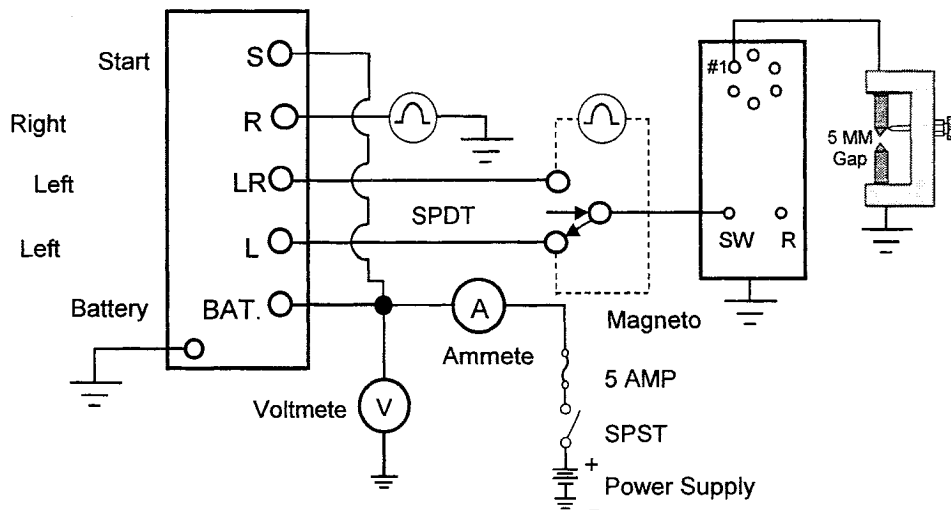
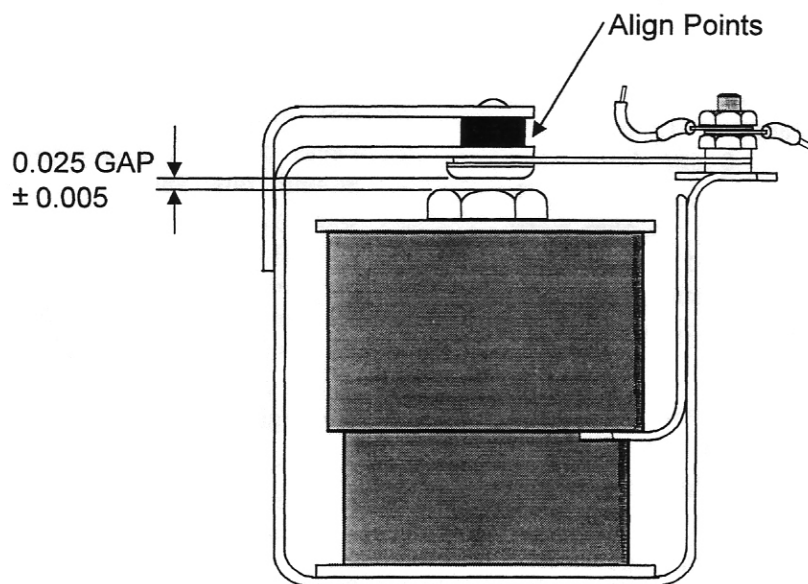

Figure 4-3
Figure 5-1
Figure 4-3, Test Setup For Starting Vibrator With Relay and Delay	4-6
- a. Use a suitable tool to bend down the protruding end of support (37) thereby increasing the spring tension between contact assemblies (10) and (19).
Insert a 0.025 feeler gauge between bottom of contact assembly (10) and top of vibrator coil core. With contacts properly aligned and touching, press down on contact assembly (19) until feeler gauge just fits between coil core and contact assembly (10). Hold contact assembly (19) in position to ensure contact alignment and vibrator point air gap clearance and tighten adjustable contact securing screw (16). Remove feeler gauge. Final check air gap and contact alignment and then torque screw (16) to 13-15 inch pounds. Recheck air gap clearance. Refer to Figure 5-1.
2. Connect vibrator terminals "L" and "LR" through an SPDT switch to "SW" terminal of magneto. See Figure 4-3.
- c. Use a suitable tool to bend down the protruding end of support (37) thereby increasing the spring tension between contact assemblies (10) and (19).
2. Connect vibrator terminals “L” and “LR” through an SPDT switch to “SW” terminal of magneto. See Figure 4-3.
and contact assembly (10). Hold contact assembly (19) in position to ensure contact alignment and vibrator point air gap clearance and tighten adjustable contact securing screw (16). Remove feeler gauge. Final check air gap and contact alignment and then torque screw (16) to 13-15 inch pounds. Recheck air gap clearance. Refer to Figure 5-1.
Figure 5-1, Aligning Contact Points	5-4
- d. Position new contact assembly in line with appropriate hole in coil support and secure with screw, lock washer, and plain washer. See Figure 5-1, "Aligning Contact Points."
6. Recheck air gap clearance. Refer to Figure 5-1, "Aligning Contact Points."